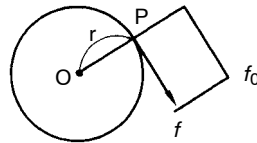

Fig 15.7 Torque Definition
Torque is a moment of force that causes the rotation axis on the rotator to rotate about a center. As shown in Fig. 15.7, when external force f (N) is used in a tangential direction at point P , which is separated by the distance r (m) only from the center of rotation O , the torque T can be expressed using the following formula.